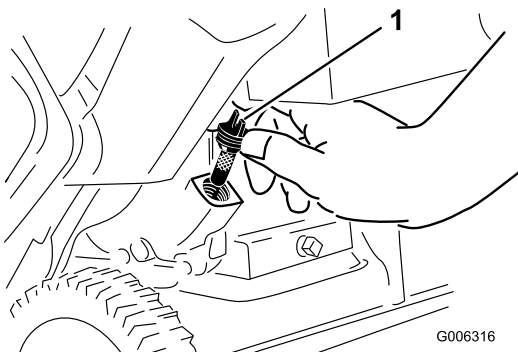

Figure 29
6. Clean around the oil-fill cap (Figure 29).
7. Unscrew the oil-fill cap and remove it (Figure 29).